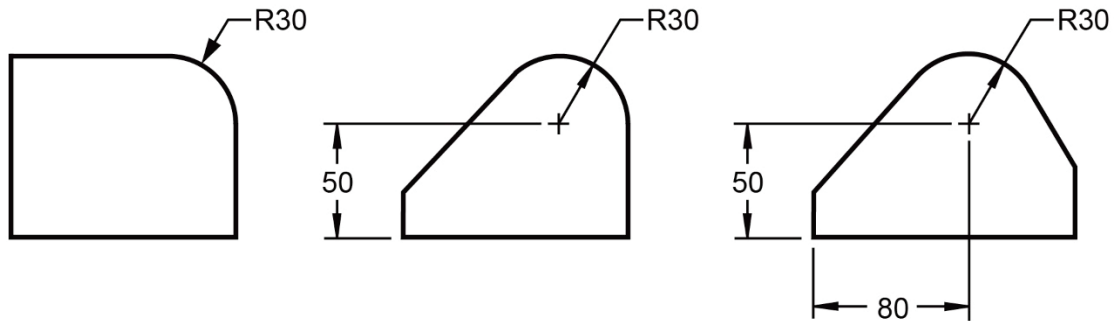

Figure 7.4-3: Dimensioning radial features.
- d) If a dimension is given to the center of a radius, a small cross is drawn at the center. Where the center location of the radius is unimportant, the drawing must clearly show that the arc location is controlled by other dimensioned features such as tangent surfaces. Figure 7.4-3 shows several different radius configurations.